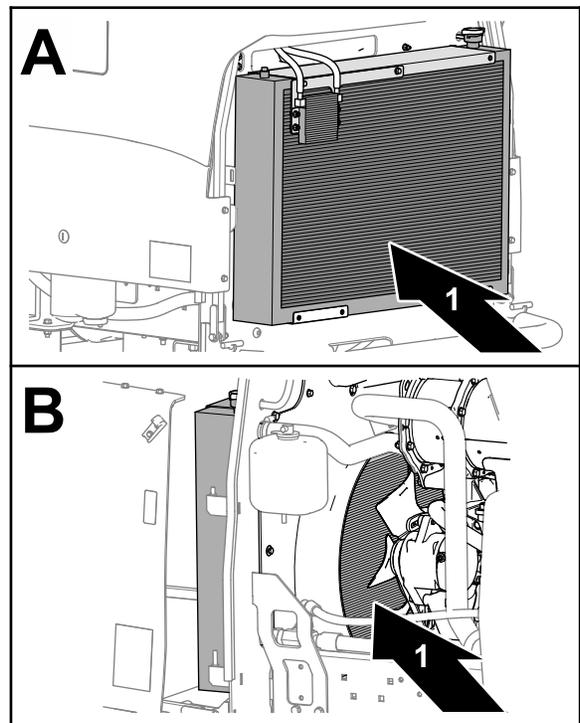

Figure 70
7. Thoroughly clean both sides of the radiator and oil cooler with compressed air (Figure 70).